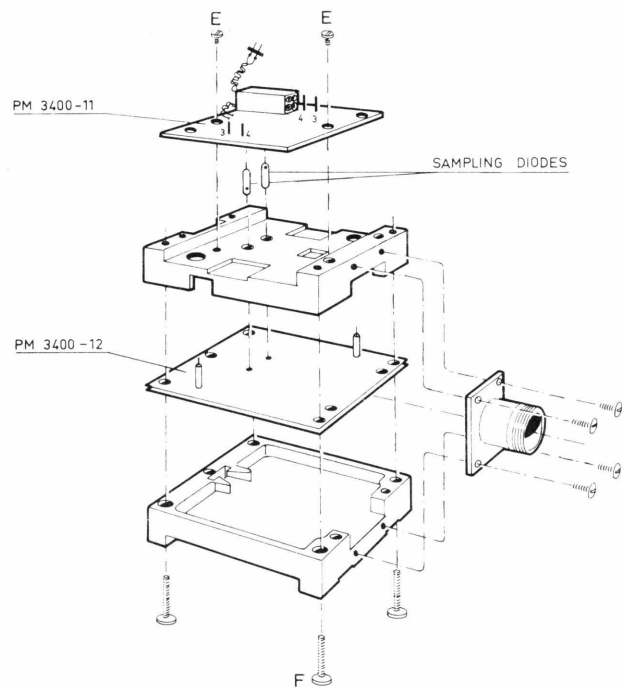

Fig. IX-11 Exploded view of the sampling head
Q. DISMANTLING THE SAMPLING HEAD (see exploded view Fig. IX-11)